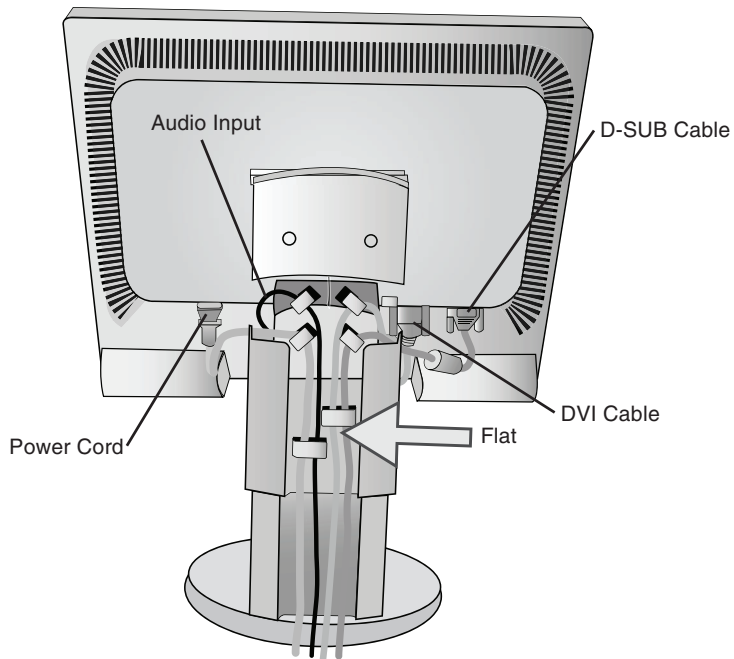
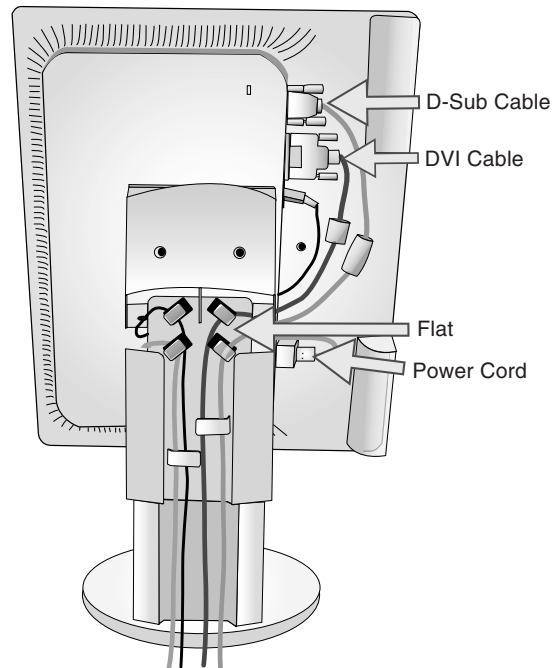

Figure C.2
Figure C.3
- To keep the cables neatly organized, place them into the cable management system that is built into the stand. Place the Power cord into the specific hooks, as indicated in **Figure C.2/**Figure C.3. Place the D-Sub and the DVI cables into the specific hooks, as indicated in **Figure C.2/**Figure C.3.
- Make sure all cables are resting flat against the stand (**Figure C.2**). Please check Tilt, Rise and Lower monitor screen and screen rotation when you manage cables.